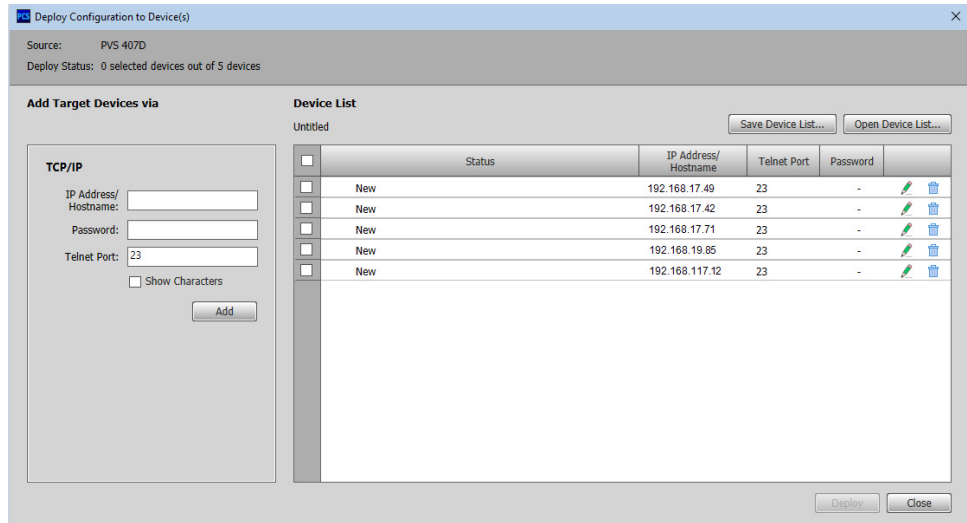

Figure 24. Deploy Configuration to Devices Window
3. Select the appropriate **Deploy Option** used, and click **OK**. This now completes access to the **Deploy Configuration to Device(s)** window (see figure 24 on the next page), where a list of existing devices are shown and new ones can be added and saved for future use.